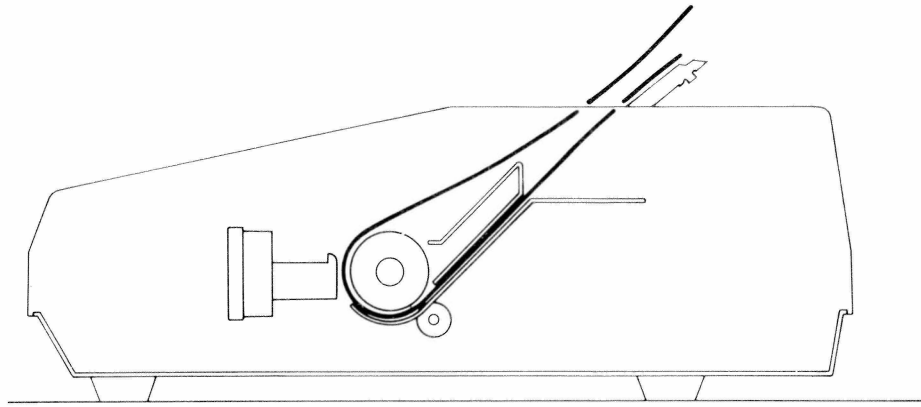

Figure 5. Single-Sheet Paper Feeding
5. Insert the paper into the Paper Insertion Opening (underneath black shield) and push the Release Lever back towards the rear of the Printer. Use the Paper Feed Knob to advance the paper until it appears between the Platen and the Print Head. (See Figure 5)